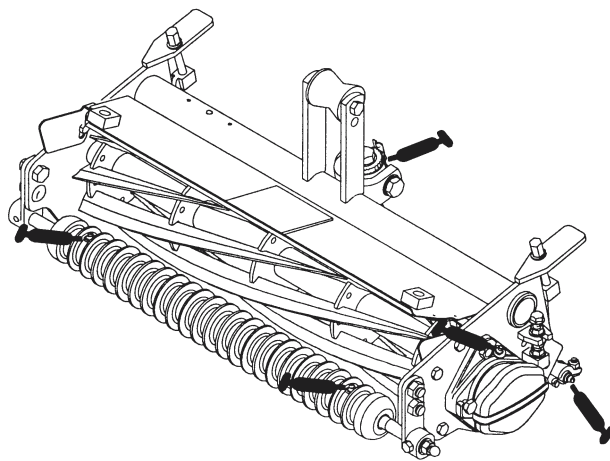

Figure 5
1. The grease fitting locations and quantities are: Reel bearings (2) and front and rear rollers (2 ea.) (Fig. 5).